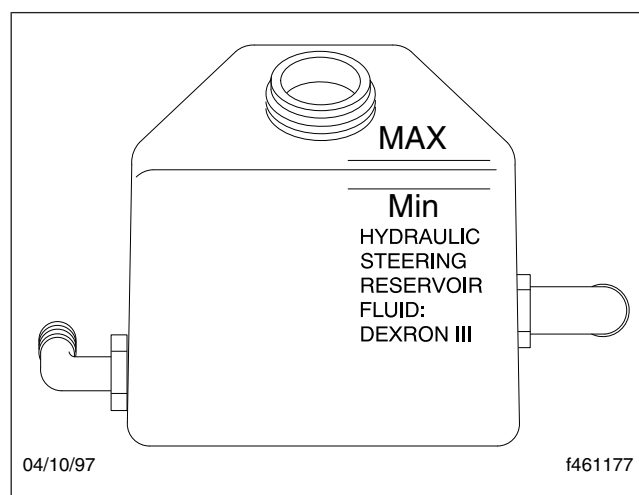

Fig. 1, Steering System Hydraulic Fluid Reservoir (rear-mounted)
2. Clean around the power steering reservoir cap with a clean rag, then remove the reservoir cap. See Fig. 1.